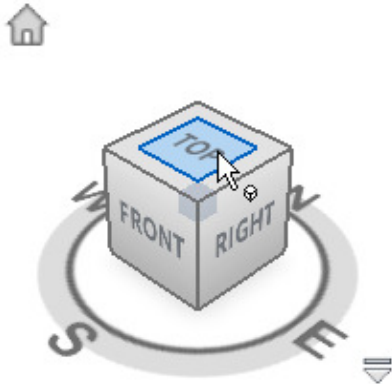

Figure Step 9A
Step 9 Move the cursor onto the top of ViewCube. When it turns blue, click it. The solid model's current view will change to the Top view. (Figure Step 9A and 9B)